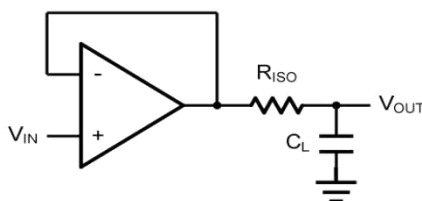
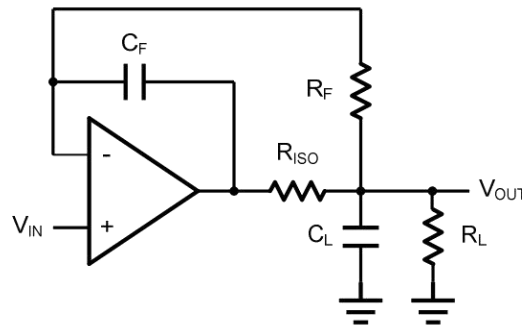

Figure 2. Indirectly Driving a Capacitive Load Using Isolation Resistor
Figure 3. Indirectly Driving a Capacitive Load with DC Accuracy
The LPV321/358/324 family is optimized for bandwidth and speed, not for driving capacitive loads. Output capacitance will create a pole in the amplifier's feedback path, leading to excessive peaking and potential oscillation. If dealing with load capacitance is a requirement of the application, the two strategies to consider are (1) using a small resistor in series with the amplifier's output and the load capacitance and (2) reducing the bandwidth of the amplifier's feedback loop by increasing the overall noise gain. Figure 2. shows a unity gain follower using the series resistor strategy. The resistor isolates the output from the capacitance and, more importantly, creates a zero in the feedback path that compensates for the pole created by the output capacitance.
The circuit in Figure 3 is an improvement to the one in Figure 2. R_F provides the DC accuracy by feed-forward the V_{IN} to R_L . C_F and R_{ISO} serve to counteract the loss of phase margin by feeding the high frequency component of the output signal back to the amplifier's inverting input, thereby preserving the phase margin in the overall feedback loop. Capacitive drive can be increased by increasing the value of C_F . This in turn will slow down the pulse response.